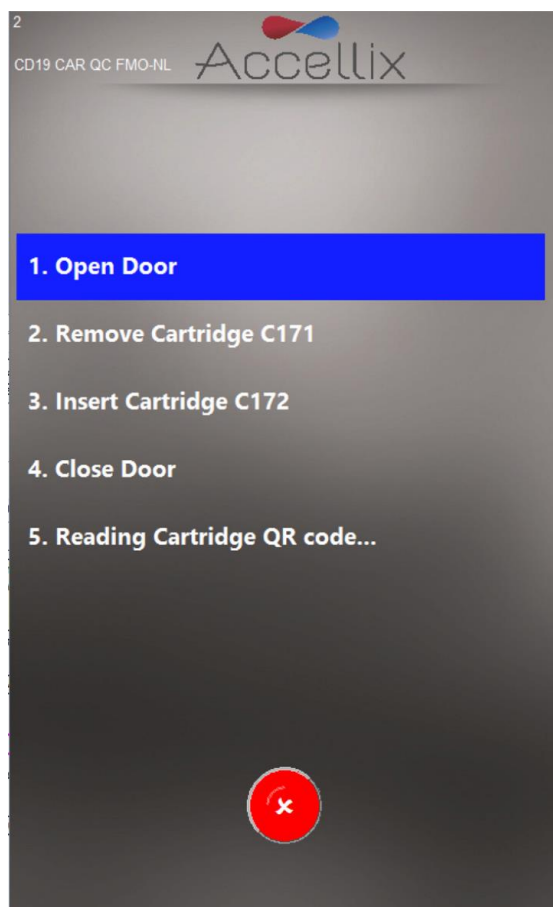

Figure 44: Multi-cartridge Remove Cartridge screen
1. The **Multi-cartridge Remove Cartridge** screen instructs the user to remove the first cartridge and insert the next cartridge in the sequence (Figure 44).